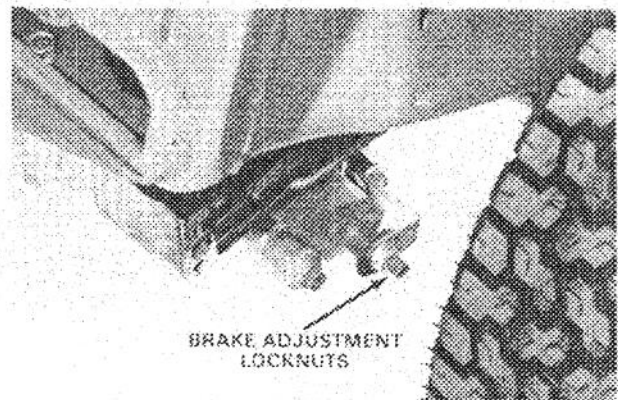

Figure 46
2. Tighten locknut approximately 1/4 turn clockwise (Fig. 46).